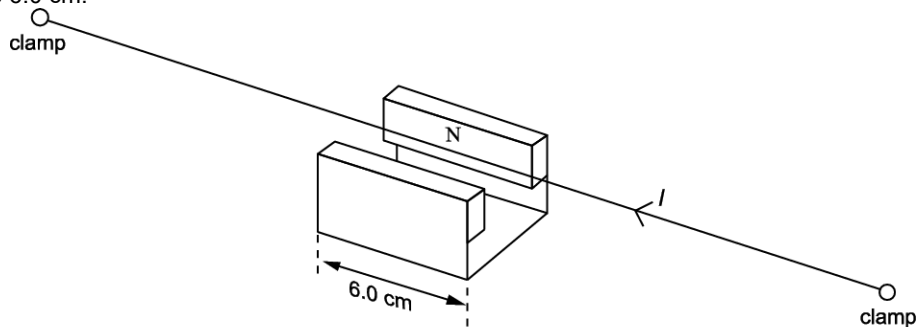

Fig. 5.1
**48 (a).** Fig. 5.1 shows a horizontal copper wire placed between the opposite poles of a permanent magnet. The wire is held in tension  $T$  by the clamps at each end. The length of the wire in the magnetic field of flux density 0.032 tesla is 6.0 cm.